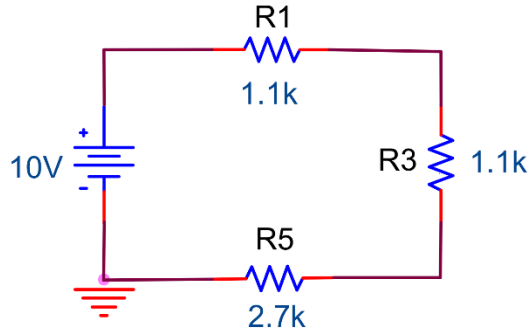

Figure 6.16
1. Use PSPICE to measure $V_{oc} = V_{TH}$. If the circuit is built like the lab procedure PSPICE will not be able to run due to open connections. It is imperative that the circuit be built as shown in Figure 6.16.